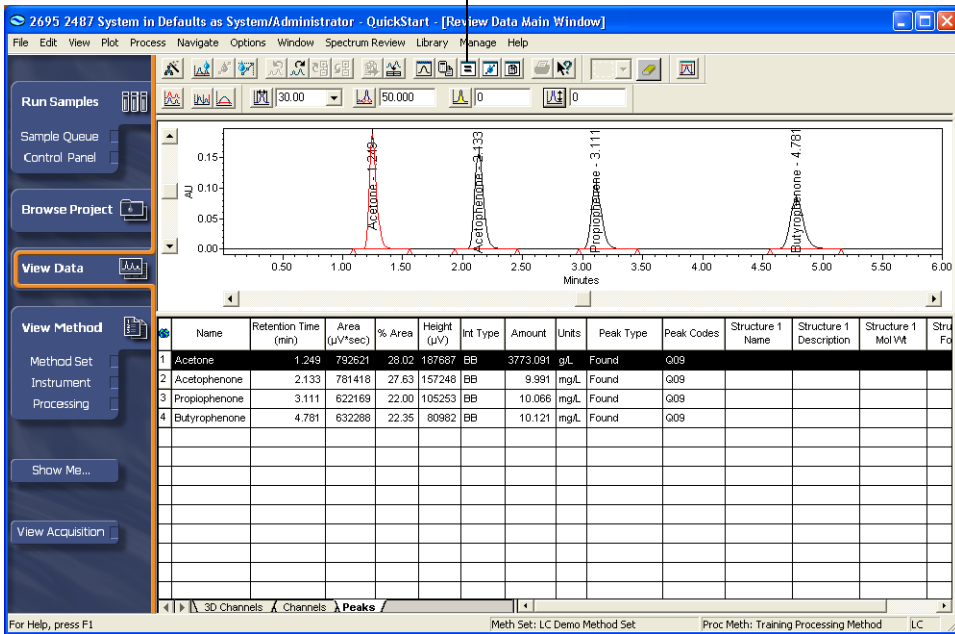

Figure 6-13 View Data with Processed Unknown
- Click the **Peaks** tab at the bottom of the Review Main window to display the peak results and calculated amounts for the unknown sample (Figure 6-13).